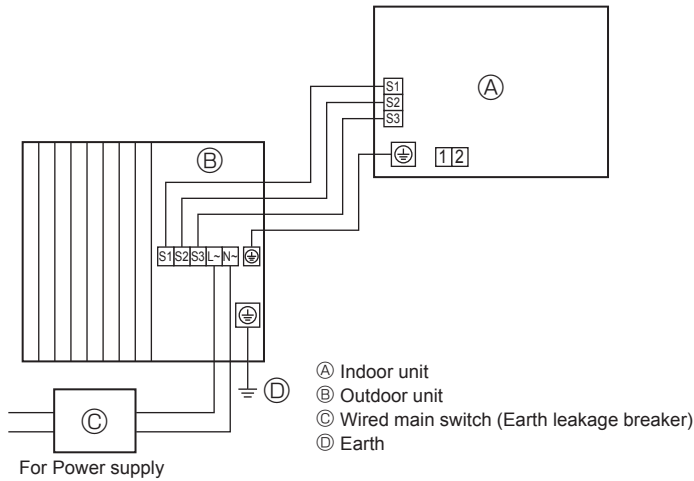
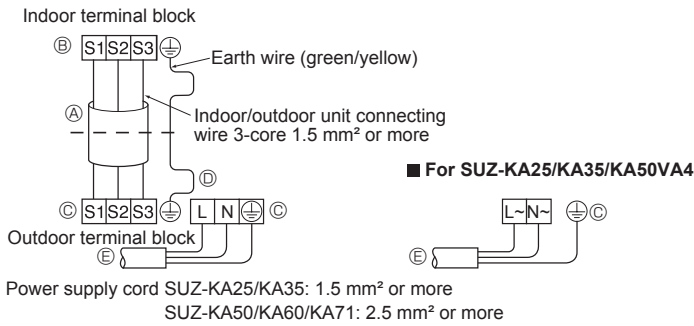
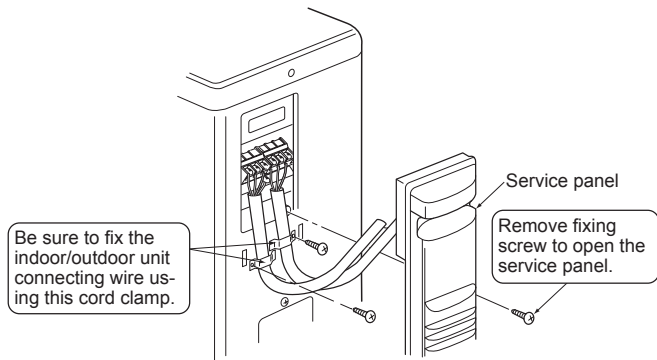

Fig. 6-1
Fig. 6-2
Fig. 6-3
### 6.1. Outdoor unit (Fig. 6-1, Fig. 6-2, Fig. 6-3, Fig. 6-4)
- ① Remove the service panel.
- ② Wire the cables referring to the Fig. 6-1, Fig. 6-2, Fig. 6-3 and the Fig. 6-4.
- Perform wiring as shown in the diagram to the lower left. (Procure the cable locally) (Fig. 6-2)